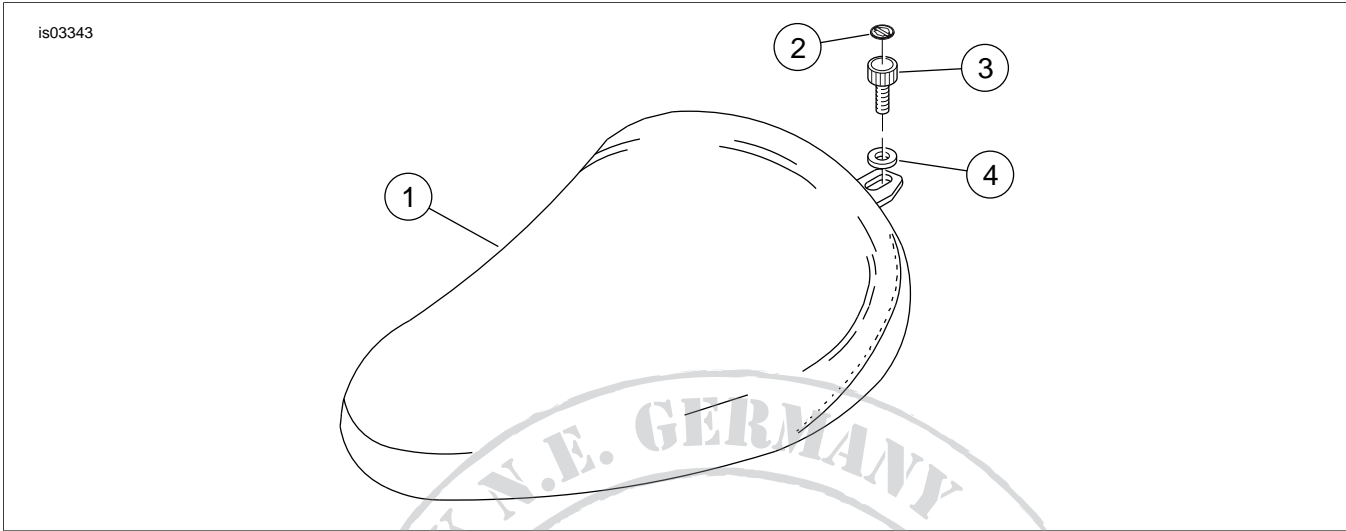

Figure 3. Service Parts for XL Solo Custom Seat Kits
See Figure 3 and Table 1.
4. See Figure 3. Secure the seat to the fender using the knurled knob (3) and neoprene washer (4) from the kit. Install the washer on the knob and tighten the knob securely to the fender seat nut.